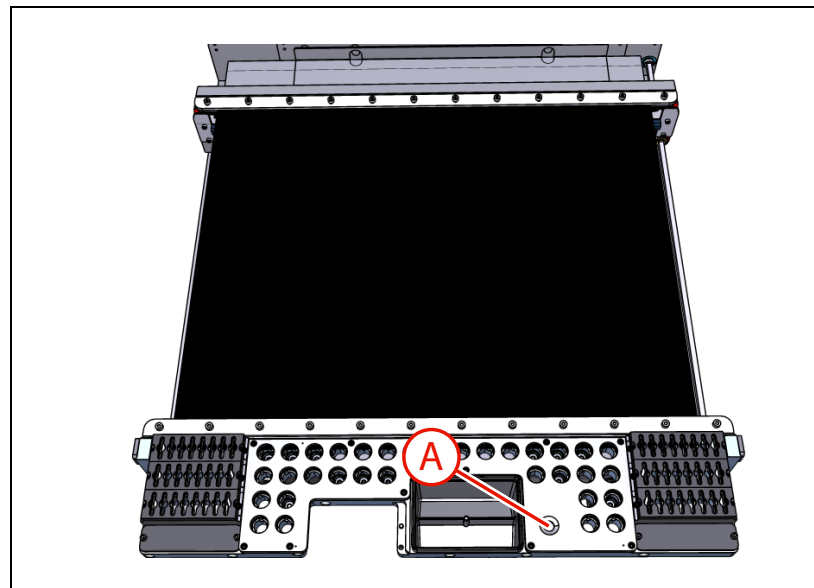

Figure 4-10. Open/Close button.
- Press the Open/Close button ('A' in Figure 4-10) to open the conveyor, this makes it possible to insert the area calibration background. The conveyor closes when the button is released.